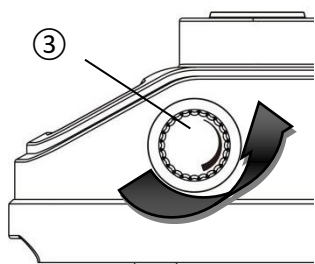
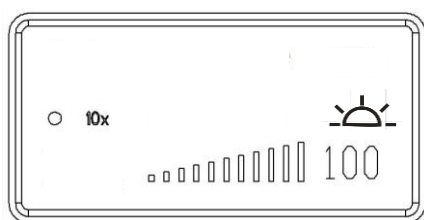

Fig.2
Fig.3
**4-2 Adjust the brightness and color temperature (Fig.2,3,4,5,6,7)**
The adjustment knob (3) adjust the brightness when the screen is shown as Figure 3. Turning the brightness adjustment knob according to the direction indicated by an arrow on the figure 2, the brightness decreases. On the contrary, the brightness strengthen.
The knob adjust the color temperature when the screen is shown as Figure 4. Turning the color temperature adjustment knob according to the direction indicated by an arrow on the figure 2, the color temperature decreases. On the contrary, the color temperature strengthen.